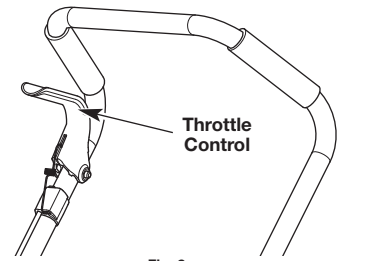

Fig. 8
3. Squeeze the throttle control to start the motor (Fig. 8).
1. Release the throttle control (Fig. 8). Allow the unit to come to a complete stop.